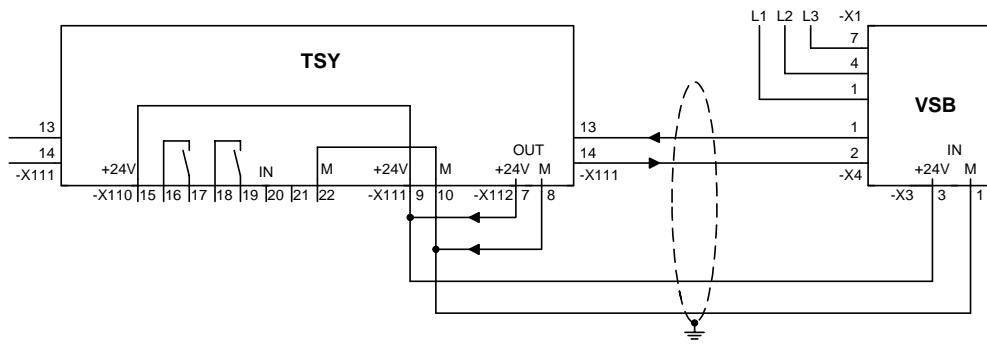

Fig. 9 Line synchronization with internal power supply
- ◆ Make the connection between the TSY and VSB as shown in Fig. 9 or 10.
- ◆ Connect a voltage supply to the TSY and VSB (see Fig. 9 or 10):